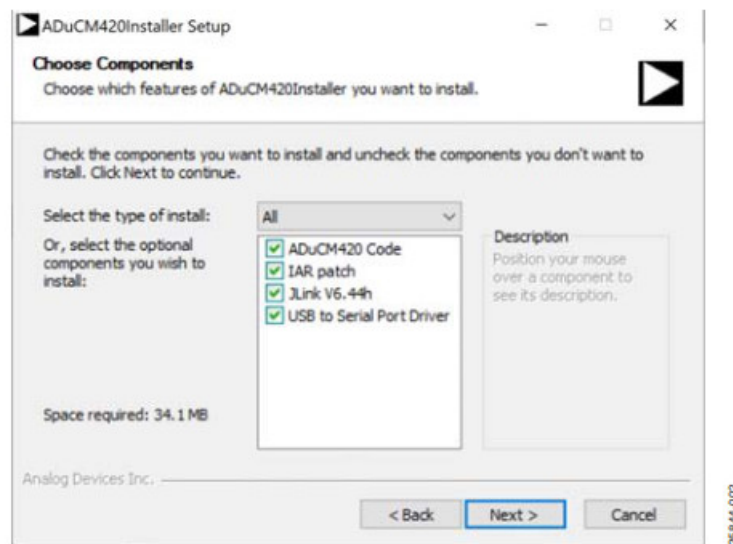

Figure 4. Installation Options
2. After downloading the ADuCM420 installer from <ftp://ftp.analog.com/pub/microconverter/ADuCM420>, double click ADuCM420Installer-V0.1.0.0.exe and follow the instructions shown in Figure 4. The ADuCM420Installer Setup window displays the installation method and component selection, as shown in Figure 4. The end user license agreement (EULA) is displayed after proceeding through the ADuCM420Installer Setup window. Accepting the EULA extracts the installer, and rejecting the EULA cancels the installer.